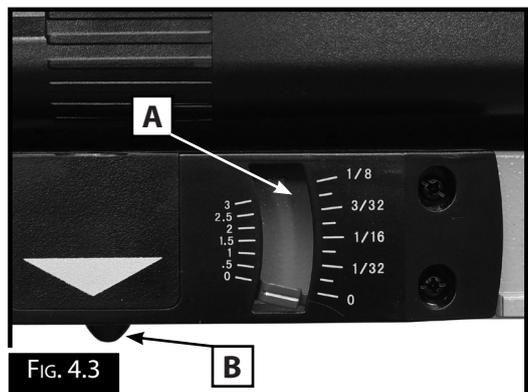

FIG. 4.3
**Depth of Cut Scale:** The Depth Of Cut Scale, located on the front of the machine, is a convenient way to quickly determine how much material is being planed off in one pass. (Fig. 4.3)
2. Crank the raising / lowering handle until the button (B) comes in contact with the workpiece.